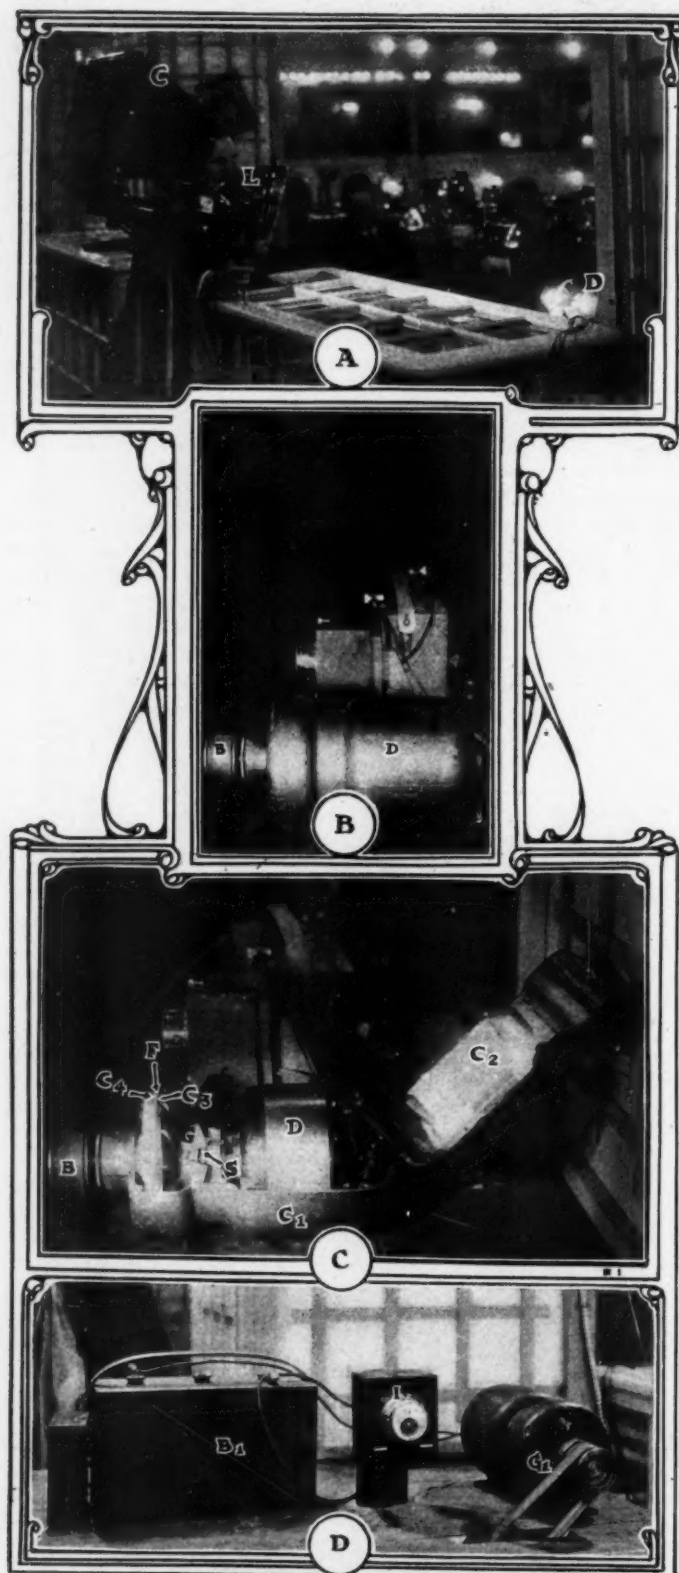

Fig. 2—(A) Presents Gray & Davis electric lighting system in operation aiding the camera
What This System Comprises.—Referring to (A) Fig. 2, and to C in the figure, which is a camera, it will be noted that the same is focused on a dynamo D in the figure, and the photograph was taken utilizing the actinic rays, which emanated from the searchlight L just below and to one side of the camera. This illustration indicates that the light is of high intensity, and the
In order to indicate the compactness of the lighting dynamo, B, Fig. 2, is offered in which D is the dynamo, showing the exterior, and how thoroughly it is enclosed, while B is the belt running over a pulley, which also connects over a driving pulley, placed at some convenient point on a driving member of the automobile motor. The power which comes from the automobile motor is subject to wide speed variations, and these variations are transmitted along the belt B, thence to the dynamo pulley and shaft which protrude out through the shell D of the dynamo.
In order to appreciate the operation of the dynamo, it will be necessary to examine the interior, for which purpose (C) Fig. 2 is presented, in which C₁ is the base half of the protecting shell, C₂ is the detachable half of the same, D presents the dynamo, which connects its armature shaft with the shaft protruding through the case to the pulley, over which the belt B runs. In order to be able to vary the speed of the driving member (the automobile motor) without suffering speed changes of the armature of the dynamo D, a governor G, under the influence of centrifugal force modified by the pressure of the spring S, is then utilized to excellent advantage.
The pressure of the transmitting faces of the friction members is but slight, it being the case that the output of the dynamo is 60 watts, which is not so very great, in view of the fact that there are 746 watts in one horsepower. It required a good deal of experimenting to arrive at the correct proportions of the governor weights G, and the proper resistance offered by the opposing spring S. The performance will be obvious from what has been said, considering the clearness of the view C, Fig. 2. It simply follows that one of the clutch members is sleeved, which permits axewise motion, but the load on the dynamo being nearly constant, in view of the use of a storage battery, permits of designing the governor so that the slippage on the disc faces will be in conformity with the requirements.
Referring to (D) Fig. 2, G₁ is the dynamo, looking at the pulley end I₁ represents the measuring instrument which is used to ascertain the potential difference in volts across the terminals of the battery and the same instrument, by suitably manipulating, tells the output of the dynamo or battery in amperes. The battery is shown as B₁, there being three cells within a suitably contrived hard-wood case.